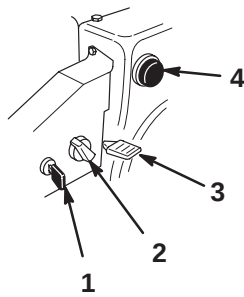

Figure 14
- **Ignition Switch** (Fig. 14)—Insert the key before starting the engine. To stop the engine, remove the key.
- **Choke** (Fig. 14)—Rotate the choke to the **On** position to start a cold engine. As engine warms up, gradually rotate the choke counterclockwise to the **Off** position.
- **Throttle** (Fig. 14)—Move the throttle upward to increase the engine speed; move it downward to decrease the engine speed. Move the throttle to the **Stop** position to stop the engine.
- **Primer** (Fig. 14)—Press the primer to pump a small amount of gasoline into the engine for improved cold-weather starting.
2. Remove the key from the ignition switch (Fig. 14).
3. Pull the choke knob off (Fig. 14).
5. Rotate the choke (Fig. 14) to the **On** position.
6. Insert the ignition key (Fig. 14).
7. Cover the hole in the center of the primer (Fig. 14) with your thumb and slowly push in the primer 3 times, pausing a moment between pushes.
10. After the engine starts, immediately rotate the choke (Fig. 14) to the 3/4 position. As the engine warms up, rotate the choke to the 1/2 position. When the engine warms up sufficiently, rotate the choke to the **Off** position.